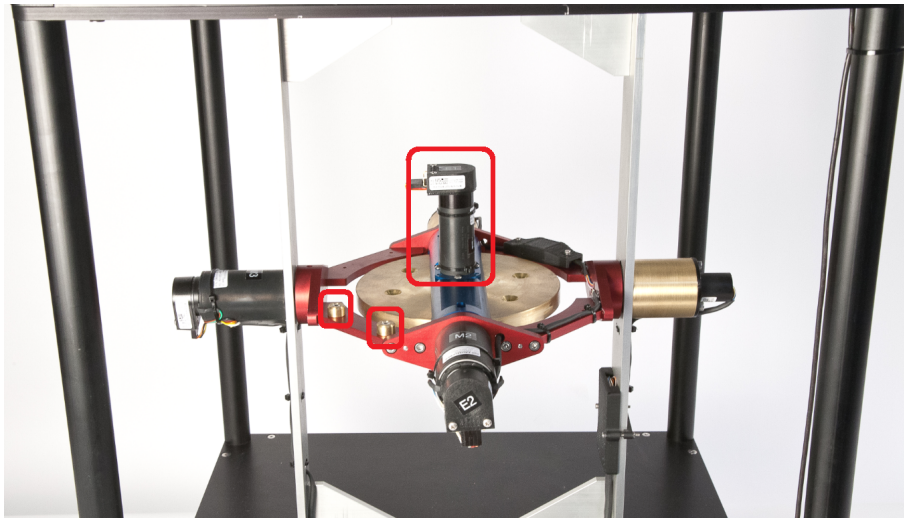

Figure 3.4: Starting position for the 3 DOF Gyroscope.
5. Place the 3 DOF Gyroscope flywheel, blue and red gimbals in their home starting position. Ensure that the flywheel's motor and the mass counter balances on the red gimbal (identified with red squares in Figure 3.4) are pointing toward the same direction (e.g., all facing up or all facing down).